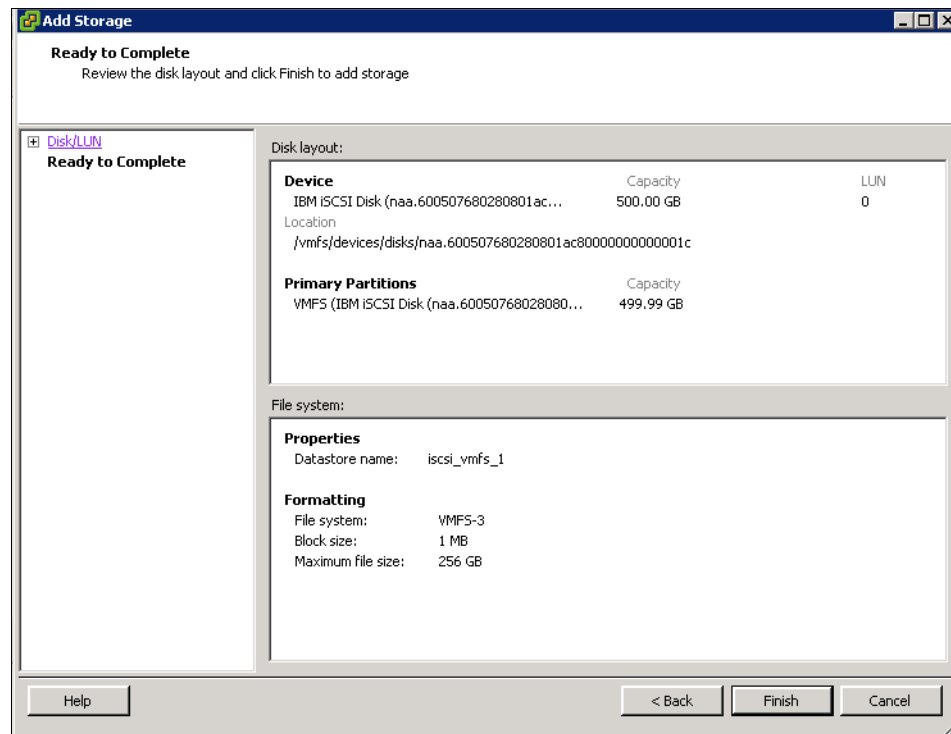

Figure 5-64 Finish the wizard
12. Review your selections and click **Finish** (Figure 5-64).